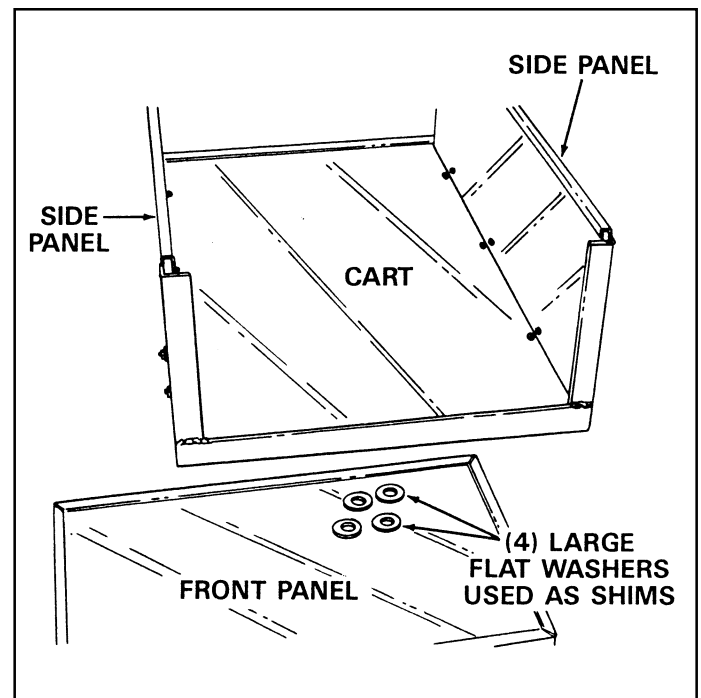

FIGURE 9
15. Lay the cart down on the floor so that the sides are in the normal upright position. Remove the front panel by sliding it up, then remove the four large washers you used for shims. See figure 9.